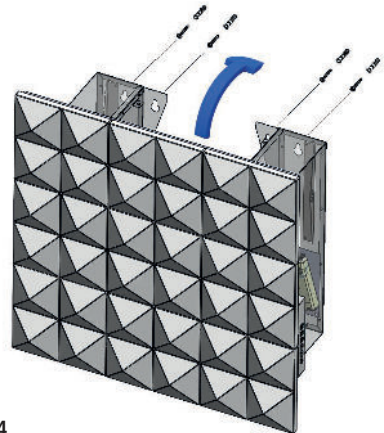

Fig.4
Fix the hood to the wall using the dowels and screws supplied (Fig.4).
- › Particular care must be made when handling the grease filter panel. It can be removed by pushing its handle toward the back-side of the cooker hood and turning the filter downwards so to unfasten it from its slot (Fig.4). To insert the filter just perform the opposite operation.